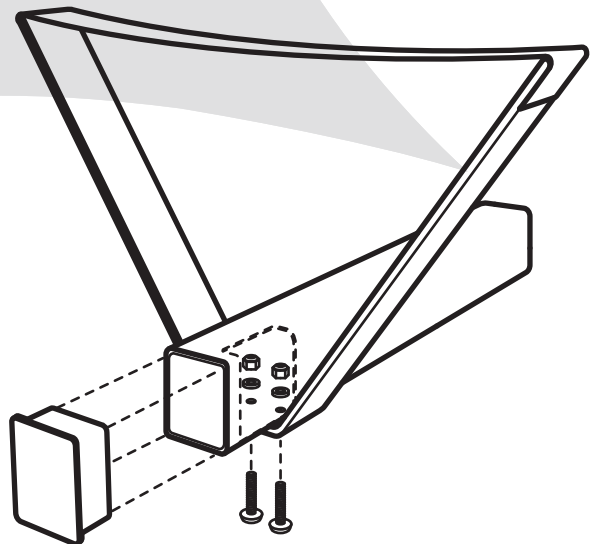

Figure 2: Securing sling to single rack.
STEP 2: With one hand place, your index finger over the box end of the 17mm wrench, and place one of the M6 Nylock nuts in the box end (underneath your finger). Slide the finger with the wrench and the nut into the boxed aluminum end, and line the nut up with the middle hole. Raise the end of the box aluminum base rack to the V-shaped sling holes, and line them up. Using your other hand, manually thread the M6 bolt (see Fig. 2). Repeat this step to thread the second nut to the second bolt.* Take the shoe lace and tie it around the webbing and the bottom of the rack. This will prevent flapping (wear) of the webbing when a boat is not on the rack.